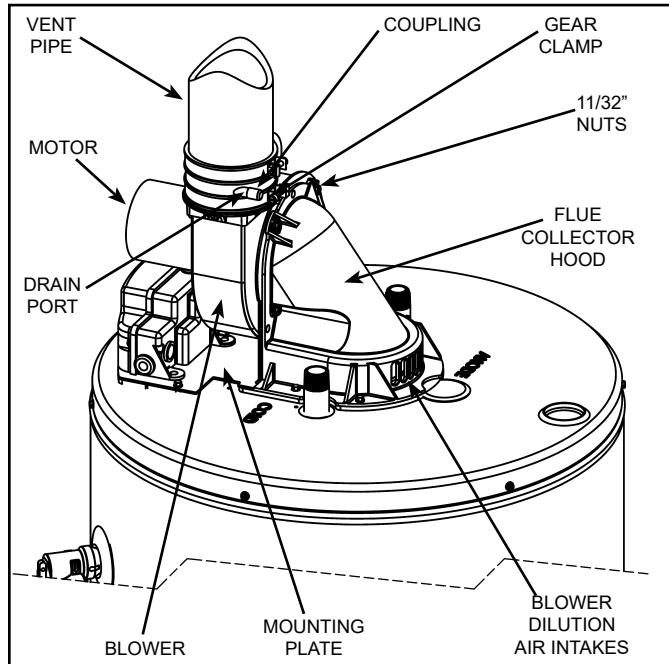

Figure 48.
Inspect the top of the heater and around the ventilation openings of the blower motor and the rear blower dilution air intakes for any lint and dust that may have accumulated. Depending on the location of the heater, significant quantities of lint may accumulate. The lint may obstruct the free flow of air to the motor, and cause the motor and blower to run hotter than normal (see Figure 48).
4. Disconnect the vent piping from the top of the blower. Loosen the lower gear clamp that holds the rubber coupling to the blower (see Figure 48).
5. Remove and retain the (4) 11/32" nuts located on the back of the blower with the nutdriver (see Figure 40 & Figure 48).